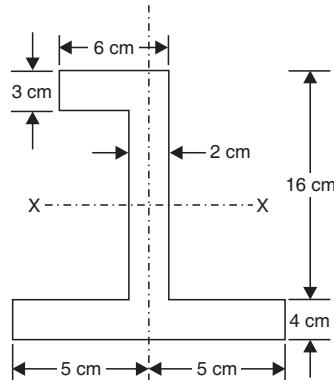

Fig. 8.37
6. Find the moment of inertia about the centroidal axis  $XX$  for the lamina shown in Fig. 8.37.